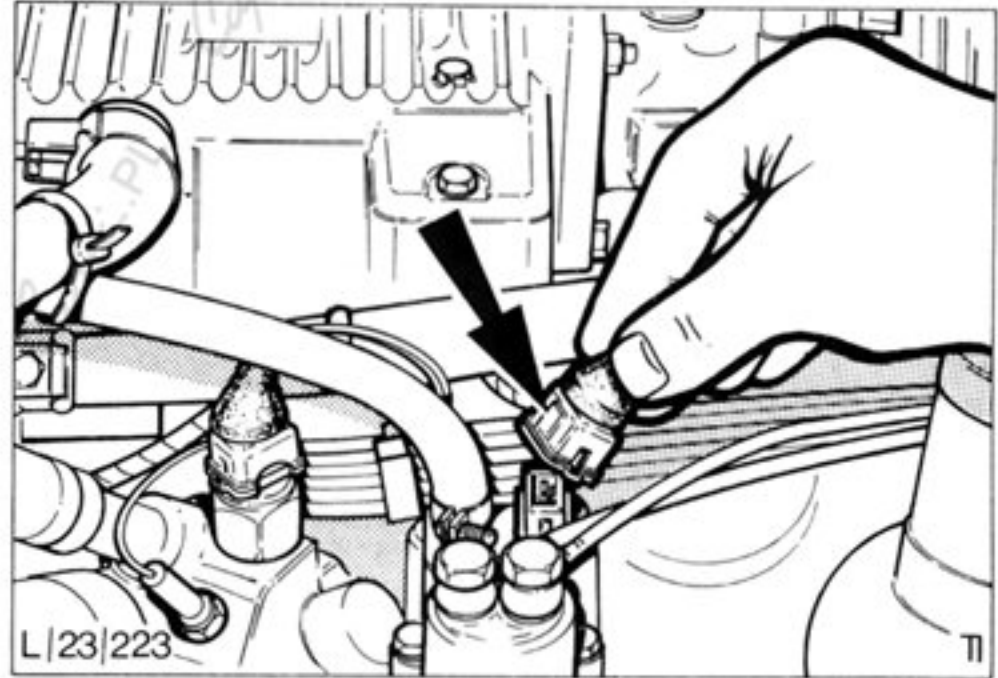
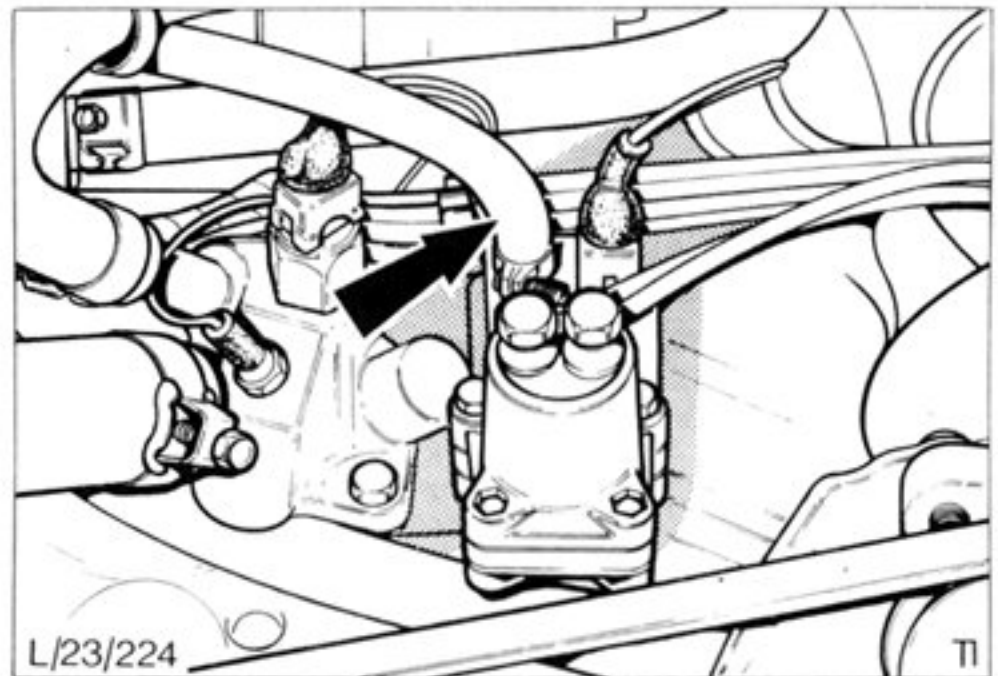

Fig.98. Fit plug to warm-up regulator.
Fig.99. Vacuum hose to warm-up regulator.
32. Connect leads to temperature sensor, thermo time switch, warm-up regulator, auxiliary air device cold-start valve, Fig.98. Connect vacuum hoses to throttle plate connection and warm-up regulator, Fig.99.